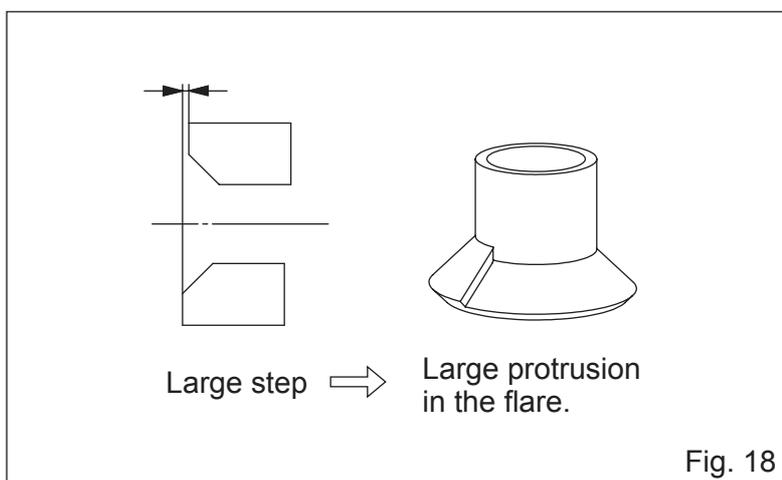

Fig. 18
- If there is a large step in setting the liner then there will also be a large step in the flare which will cause a gas leak. (Fig. 18)